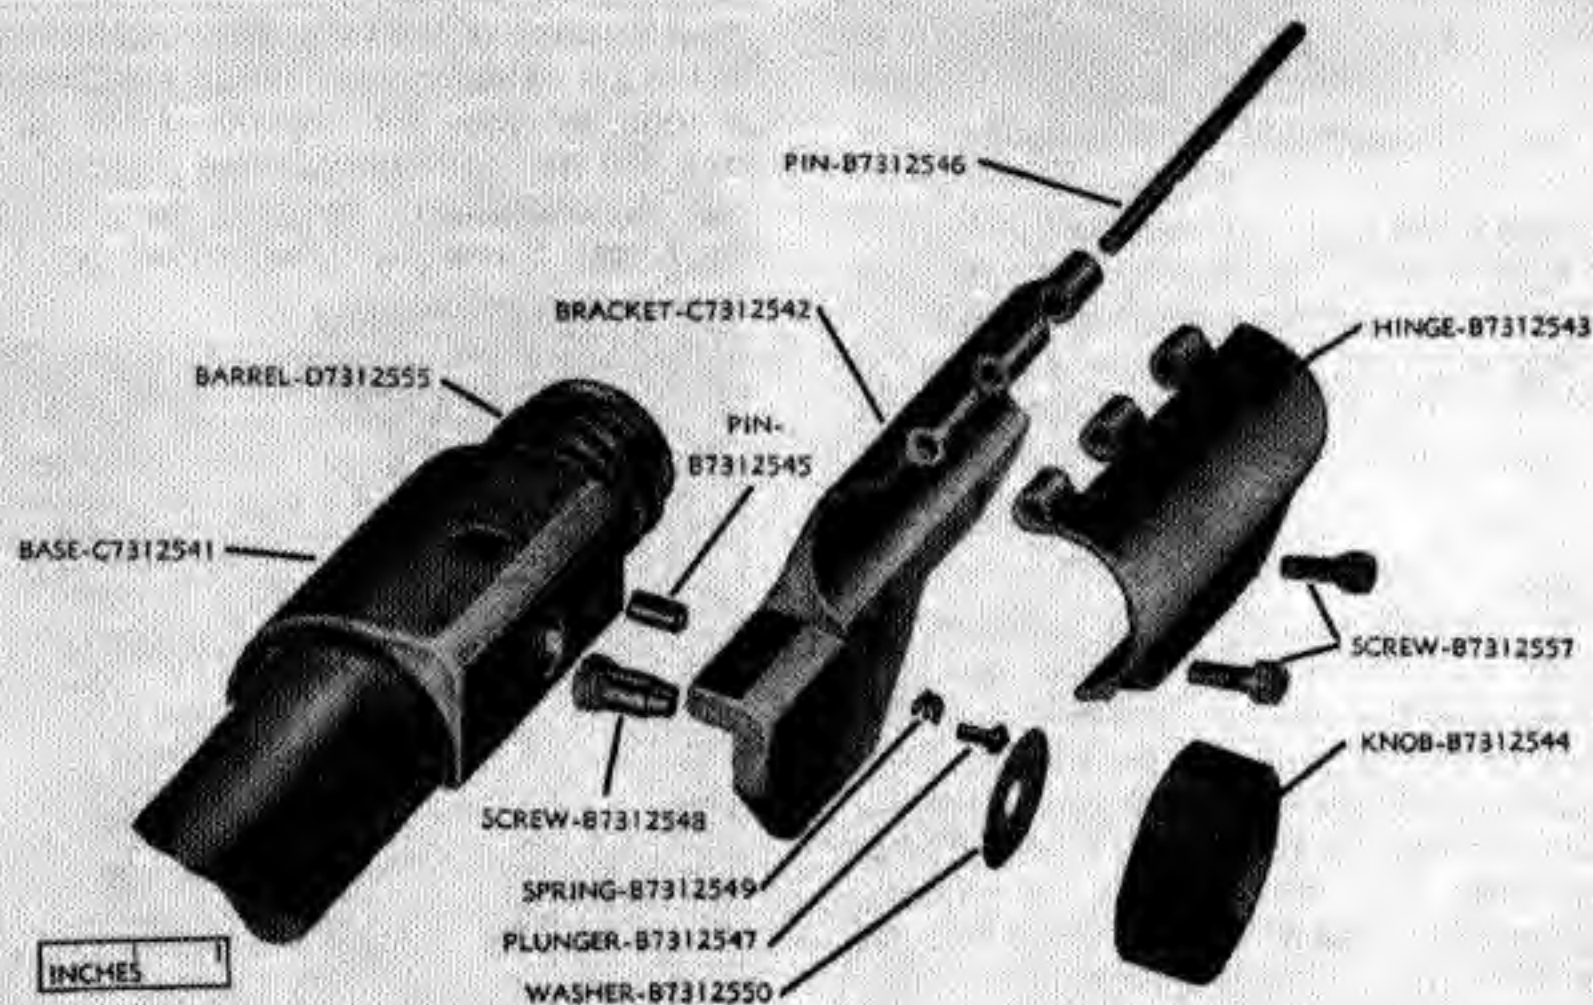

Fig. 131. Barrel with fixed base and scope mount parts, M1D.
55. Telescope mount, M1D only: (Fig. 131) inspect base for looseness on barrel, and for burrs. Inspect dowel pin for burrs, wear, and for looseness in base. Inspect knob for looseness on screw and